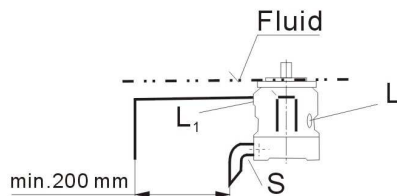

Fig.1
a) If the minimum fluid level is equal to or above the pump mounting face close port "L" plugged, leave ports "L₁" and "S" open; L₁ piped and recommendation S piped (see Fig.1).